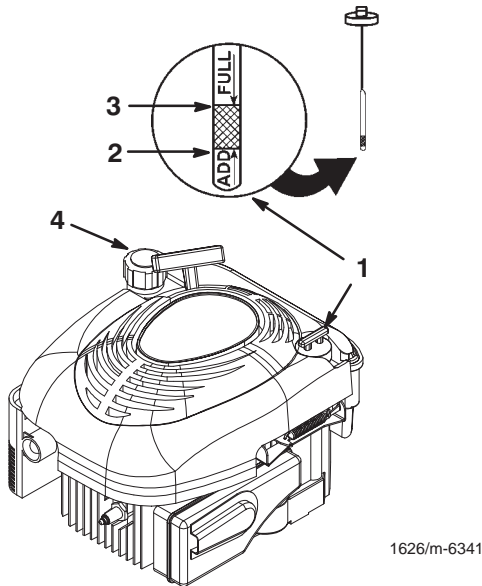

Figure 5
Before each use, ensure that the oil level is between the Add and the Full marks on the dipstick (Fig. 5).
2. Clean around the dipstick (Fig. 5).
6. Read the oil level on the dipstick (Fig. 5).
1. Clean around the fuel tank cap (Fig. 5).